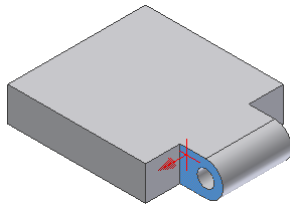

Figure 1.2
4. Select the face of the tongue on Plate 1:1 as shown in Figure 1.2.